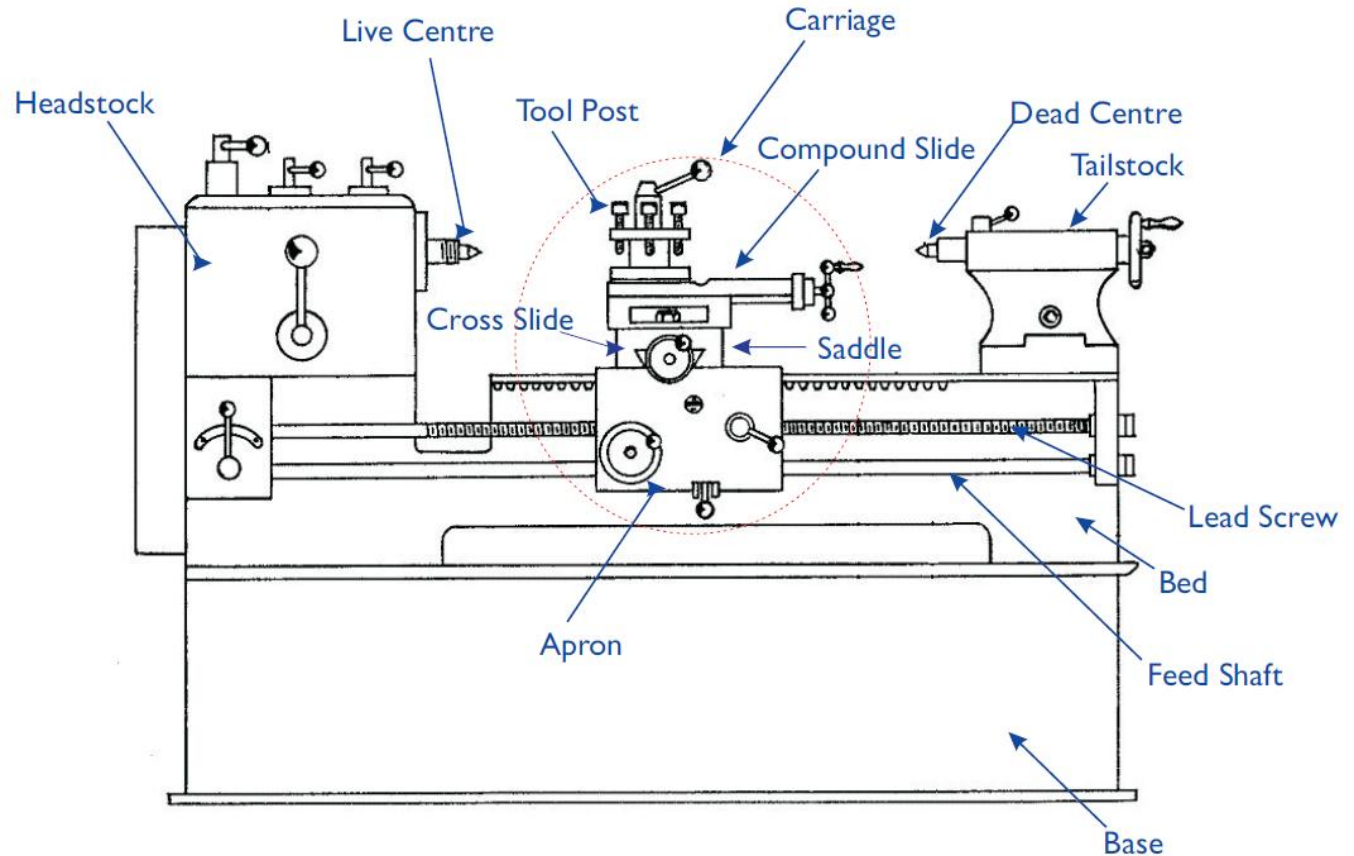

Fig.1
A lathe is a powered mechanical device in which the work is held and rotated against a suitable cutting tool for producing cylindrical forms in the metal, wood or any other machinable material. (See Fig.1)
1. **BED:** It is the base of lathe. It is casting made in one piece. It holds or supports all other parts of lathe. (See fig.1)
2. **HEAD STOCK:** It is a permanently fastened on the inner ways at the left hand end of the bed. It supports spindle and driving arrangements. All lathes receive their power through head stock. (See fig.1)
3. **TAILSTOCK:** It is the counter part of head stock of is situated at the right end of the bed. It is used for supporting the work when turning on centers or when a long component is to be held in a chuck. (See fig.1)
4. **CARRIAGE:** It is located between headstock. It can slide along bed guide ways and be locked at any position by tightening the carriage lock screws. It consists of following five main parts of lathe. (See fig.1)
5. **APRRON:** It is fastened to saddle. It contains gears and clutches for transmitting motion from feed rod and hand wheel to the carriage. Also split nut which engages with the lead screw during threading. The Clutch mechanism is used for transmitting motion from feed rod whereas the split nut along with the lead screw moves the carriage during thread cutting. (See fig.1)
1. **SADDLE:** It is made up of H shaped casting. It aids saddle to slide on bed guide ways by operating hand wheels. (See fig.1)
3. **CROSS-SLIDE:** It is provided with a female dovetail on one side and assembled on top of saddle having a male dovetail.(See fig.1)
4. **TOOL POST:** It is used to hold various tool holders and tools. (See fig.1)